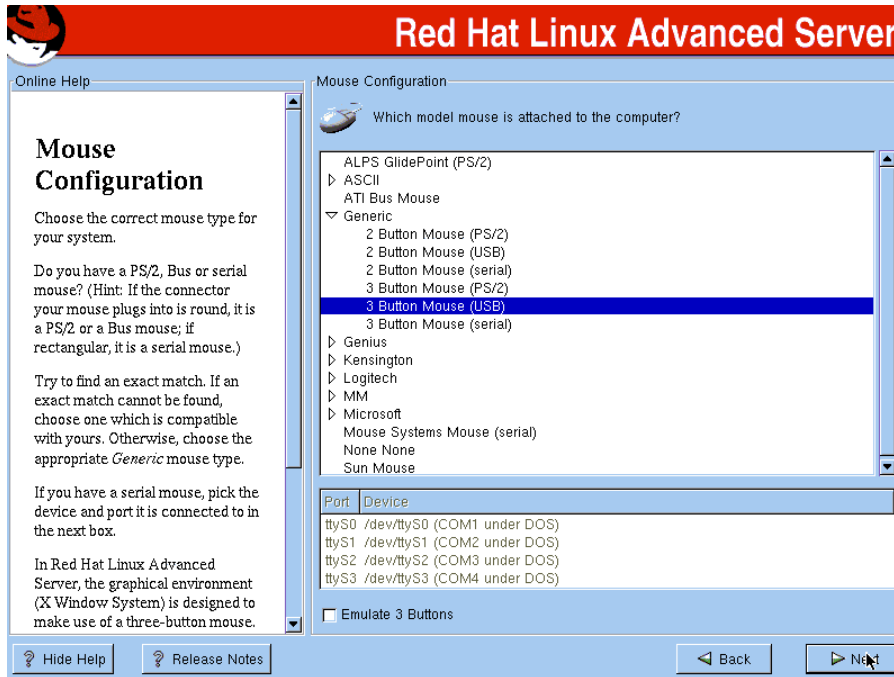

Figure 18. Mouse Configuration
- a. In the Mouse Configuration window (Figure 18), verify selection of a USB mouse, either Generic – 3 Button Mouse (USB) or Generic – 2 Button Mouse (USB).